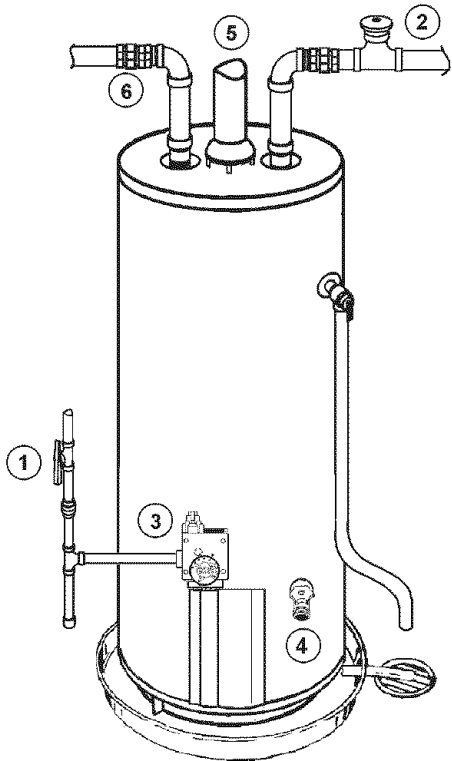

FIGURE 2.
If the main gas line shutoff valve serving all gas appliances is used, also shut "OFF" the gas at each appliance. Leave all gas appliances shut "OFF" until the water heater installation is completed, see Figures 2 and 3.
- ② Turn "OFF" the water supply to the water heater at the water shut off valve or water meter. Some installations require that the water be turned off to the entire house, see Figures 2 and 4.
- ④ Attach a hose to the water heater drain valve and put the other end in a floor drain or outdoors. Open the water heater drain valve. Open a nearby hot water faucet which will relieve pressure in the water heater and speed draining. The water passing out of the drain valve may be extremely hot. To avoid being scalded, make sure all connections are tight and that the water flow is directed away from any person, see Figures 2 and 5.